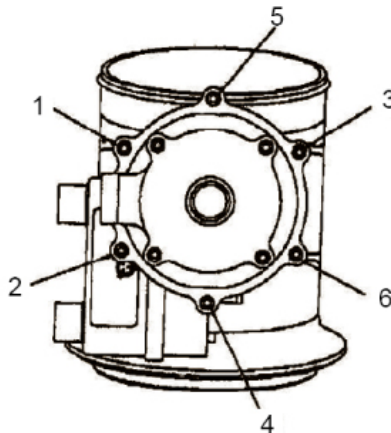

Figure 6. IMV Valve RMO Attachment Non-Captive Fasteners.
- 2.3 Loosen (do not remove) IMV Valve RMO Flex Shaft Interface non-captive fasteners (six) (Ratchet, 1/4" Drive; 5/32" Hex Head, 1/4" Drive). Refer to Figure 6.